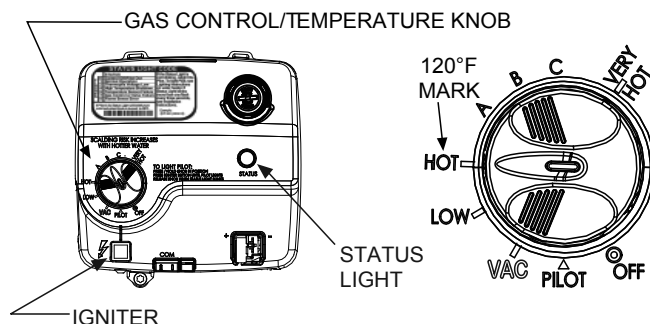

FIGURE 24A.
**HOTTER WATER CAN SCALD:** Water heaters are intended to produce hot water. Water heated to a temperature which will satisfy space heating, clothes washing, dish washing, and other sanitizing needs can scald and permanently injure you upon contact. Some people are more likely to be permanently injured by hot water than others. These include the elderly, children, the infirm, or physically/mentally handicapped. If anyone using hot water in your home fits into one of these groups or if there is a local code or state law requiring a certain temperature water at the hot water tap, then you must take special precautions. In addition to using the lowest possible temperature setting that satisfies your hot water needs, a means such as a mixing valve should be used at the hot water taps used by these people or at the water heater. Mixing valves are available at plumbing supply or hardware stores. See Figure 18. Follow manufacturer's instructions for installation of the valves. Before changing the factory setting on the thermostat, see Figure 24A. Using the lowest hot water temperature that meets your needs will also provide the most energy efficient operation of the water heater.
The thermostat is adjusted to the pilot position when it is shipped from the factory. Water temperature can be regulated by moving the temperature dial to the preferred setting. The preferred starting point is 120°F at the "HOT" setting. Align the knob with the desired water temperature as shown in Figure 24A. There is a hot water scald potential if the thermostat is set too high.